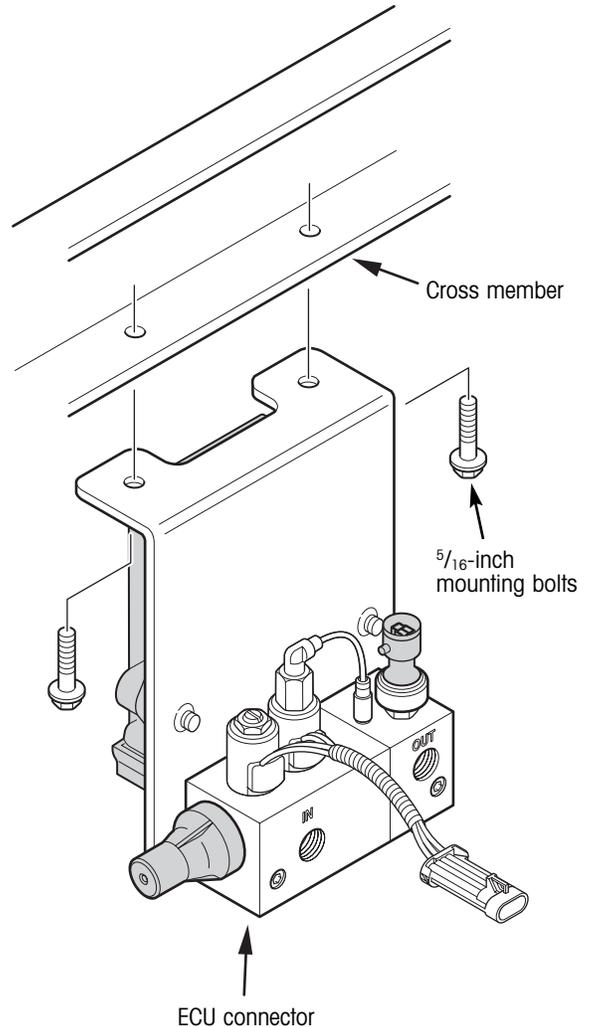

Figure 17. Controller assembly installation
2. Drill two holes on four-inch centers to accommodate the mounting bracket. Attach the controller assembly with two 5/16-inch fasteners (figure 17).
**⚠ CAUTION:** The controller assembly must be mounted vertically with the ECU connector down (figure 17). This properly orients the exhaust port to prevent damage.